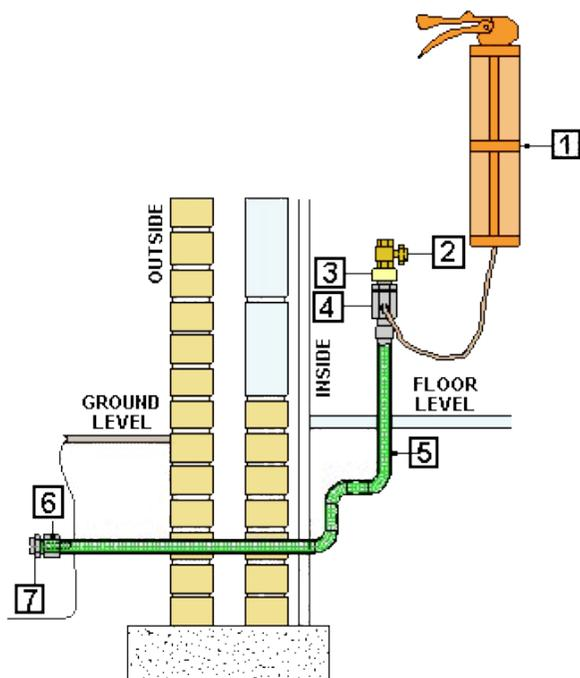

Figure 46 - Sealing of annulus with grout
8. Screw the injection nozzle assembly into the female threaded end of the cartridge see Figure 46 - Sealing of annulus with grout.